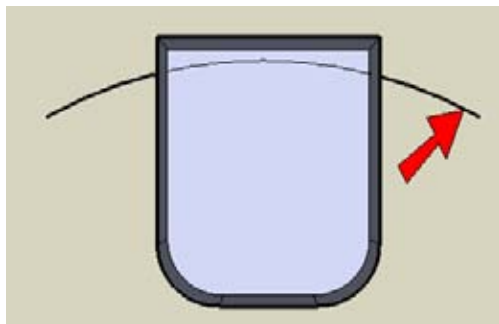

Figure 4-64
2. In Top view, draw an arc on the ground plane, which extends past both sides of the box (Figure 4-64). This path will be used to create the steps that lead down into the tub.